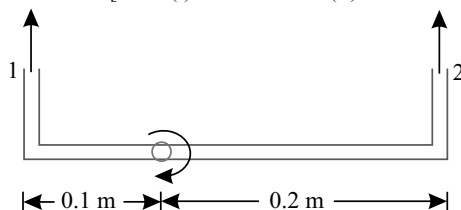

Fig. 6.97
27. The sprinkler shown in Fig 6.97 has nozzles of 5 mm diameter and carries a total discharge of 0.20 litres/sec. Determine: